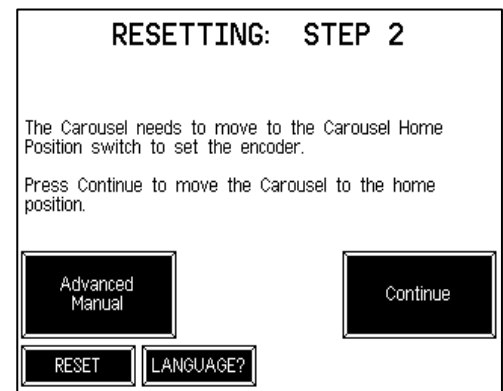

Fig. 7
4. The touchscreen control panel will power up and show a screen to request the language to display. Once the language is selected, the screen will show a request to move the carousel home. Refer to Fig. 7.